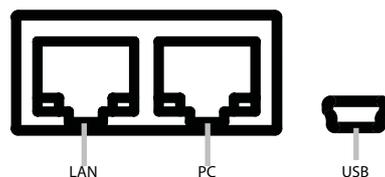
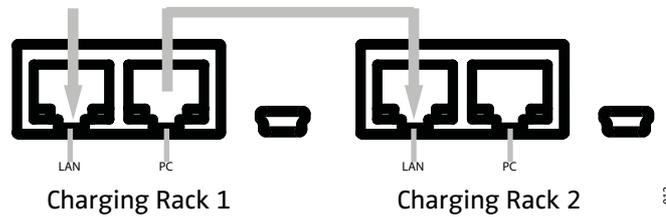

Figure 9. Communication connections inside the CR3 Charging Rack.
Figure 10. Connecting Charging Racks in series using Ethernet cables.
When connecting several (up to four) CR3 Charging Racks over Ethernet, it is possible to connect them in series using the two Ethernet connections (see figure 10). Power over Ethernet is not supported.
- 2 If a single Charging Rack is used, connect the Ethernet cable or USB cable to the connections shown in figure 9 on page 12. If several Charging Racks shall be connected in series, connect the Ethernet cables to the connections shown in figure 10 on page 13.
See figure 9 on page 12 to see the communication connections to the charger.